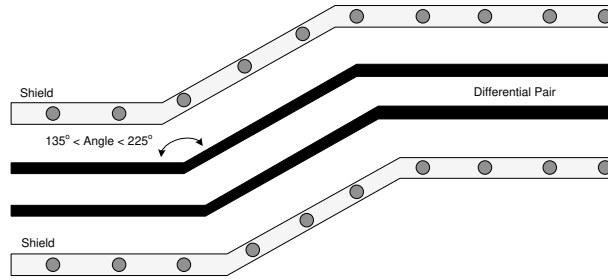

图 9-14. USB Routing Example
- Ensure that the bend angles associated with the differential signal pair are between 135° and 225°. (See 图 9-14).